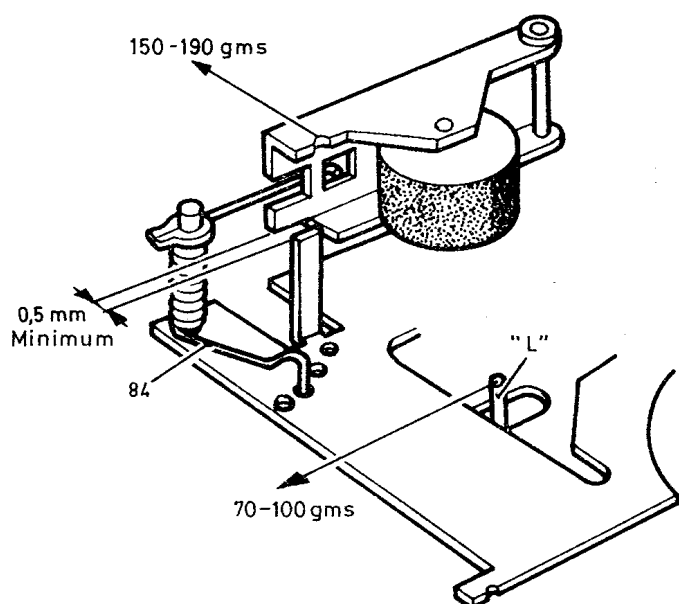

Fig. 7
#### (a) Pressure roller bracket 83 (see Fig. 7)
**(c) Clutch spring 86 (see Fig. 7)**